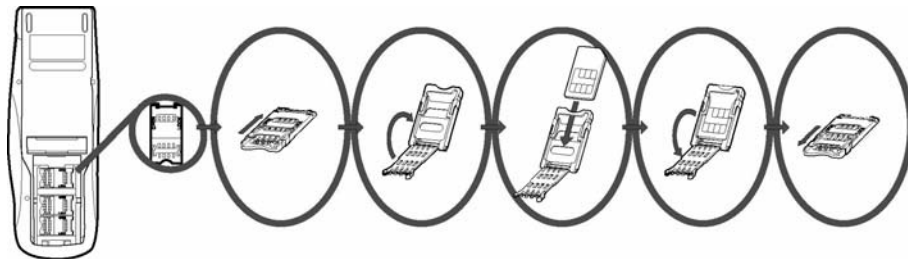

Figure 10 MSAM Card Installation
The three MSAM cardholders are now accessible. Each cardholder consists of a hinged tilt-up cover attached to a connector base (Figure 10).
- 3 Access the MSAM cardholders (reference Figure 10):